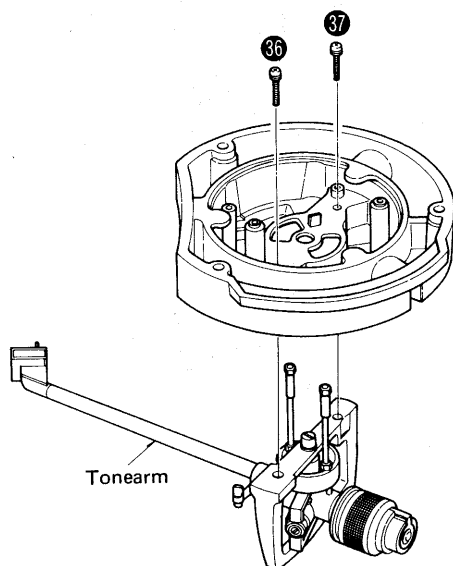

Fig. 11
2. Remove the 2 tonearm setscrews (Fig. 11 : 36 , 37), and then the tonearm can be removed.